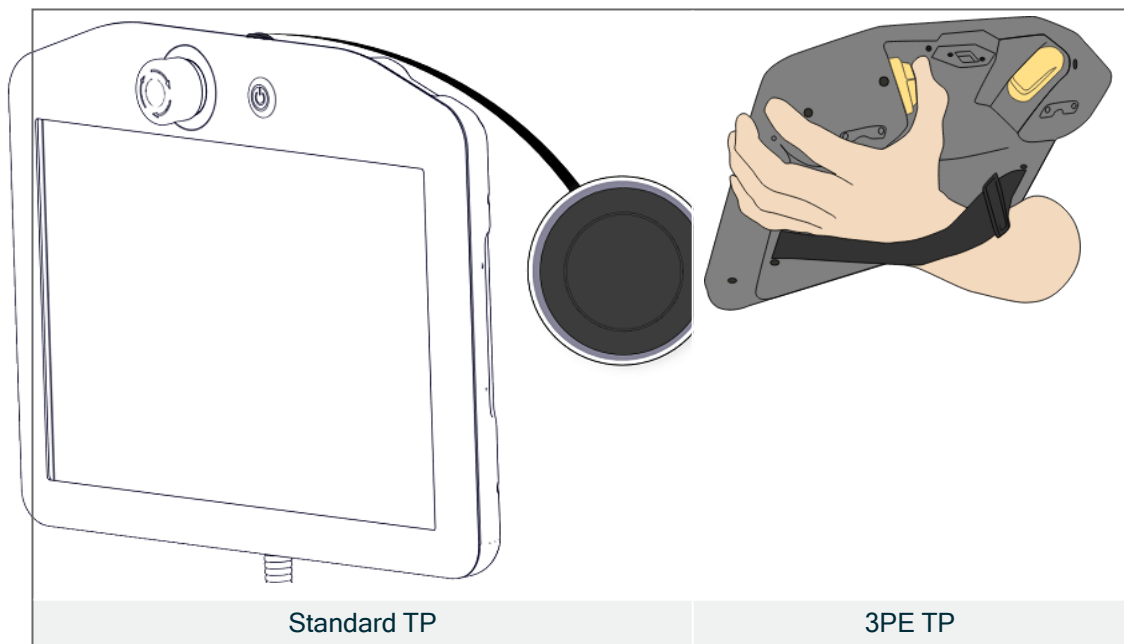

Figure 3.6. Freedriving a standard TP and 3PE TP.
2. Press and hold Freedrive. Status changes to *Backdrive*, as shown in figure 3.6.